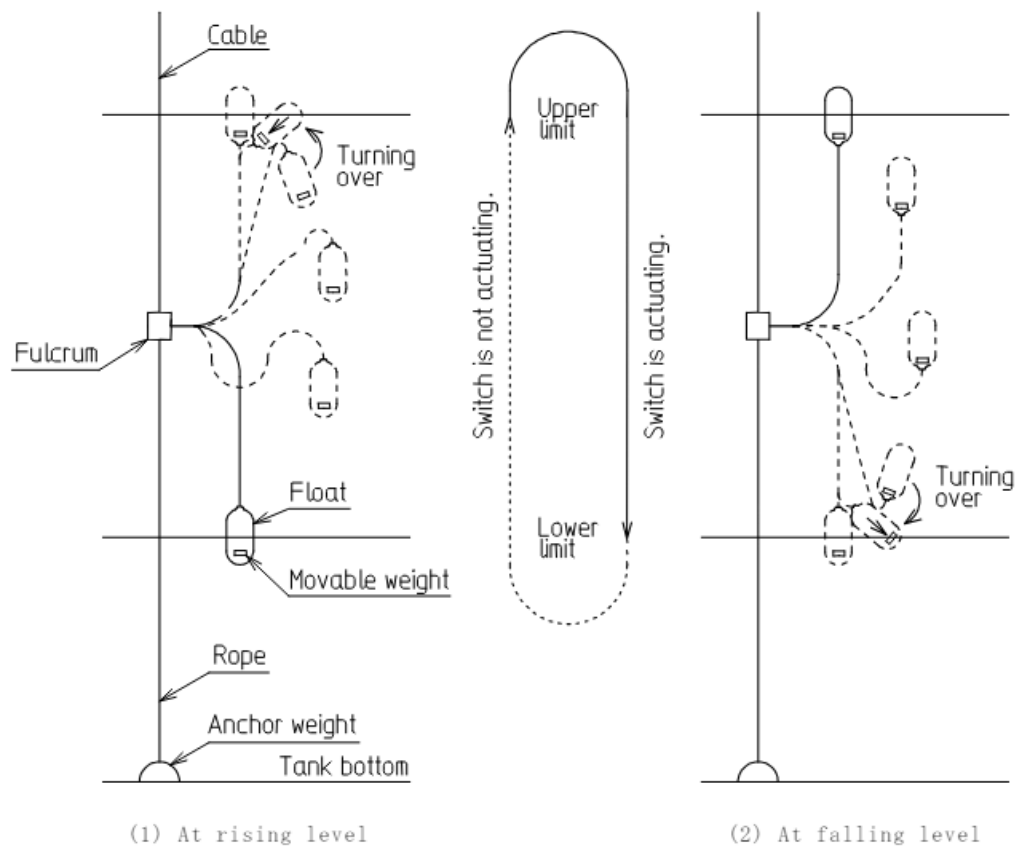

Fig. 4 Operating principle drawing
- In case of a rising level, the float rises according to the liquid level as shown Fig. 4(1), and turns over quickly on the upper limit level of control width. Movable weight travels from top to bottom inside the float and touches with a permanent magnet. Magnetized movable weight makes the reed switch actuate.